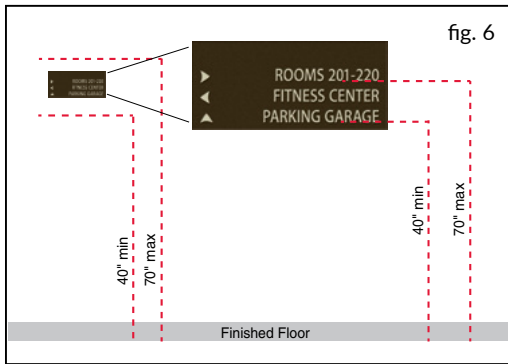

fig. 6
- The ADA requires visual signs with text 2" and under in height to be installed with the baseline of the lowest visual character a minimum of 40" above the finished floor, and the bottom of the highest visual character a maximum of 70" above the finished floor. (see fig. 6) We recommend installing our signs at 54" from the center of the sign to the floor.